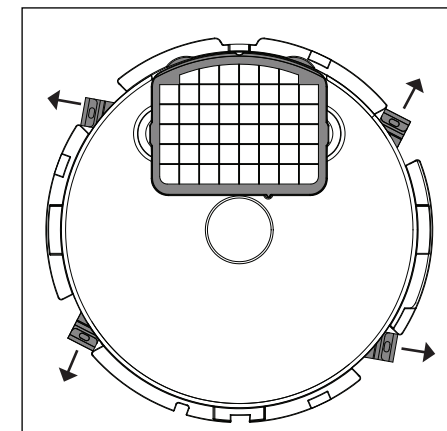

Figure 4
- 2 Pull DICER BOTTOM DISC BLADE LOCKS out as show in Figure 4.